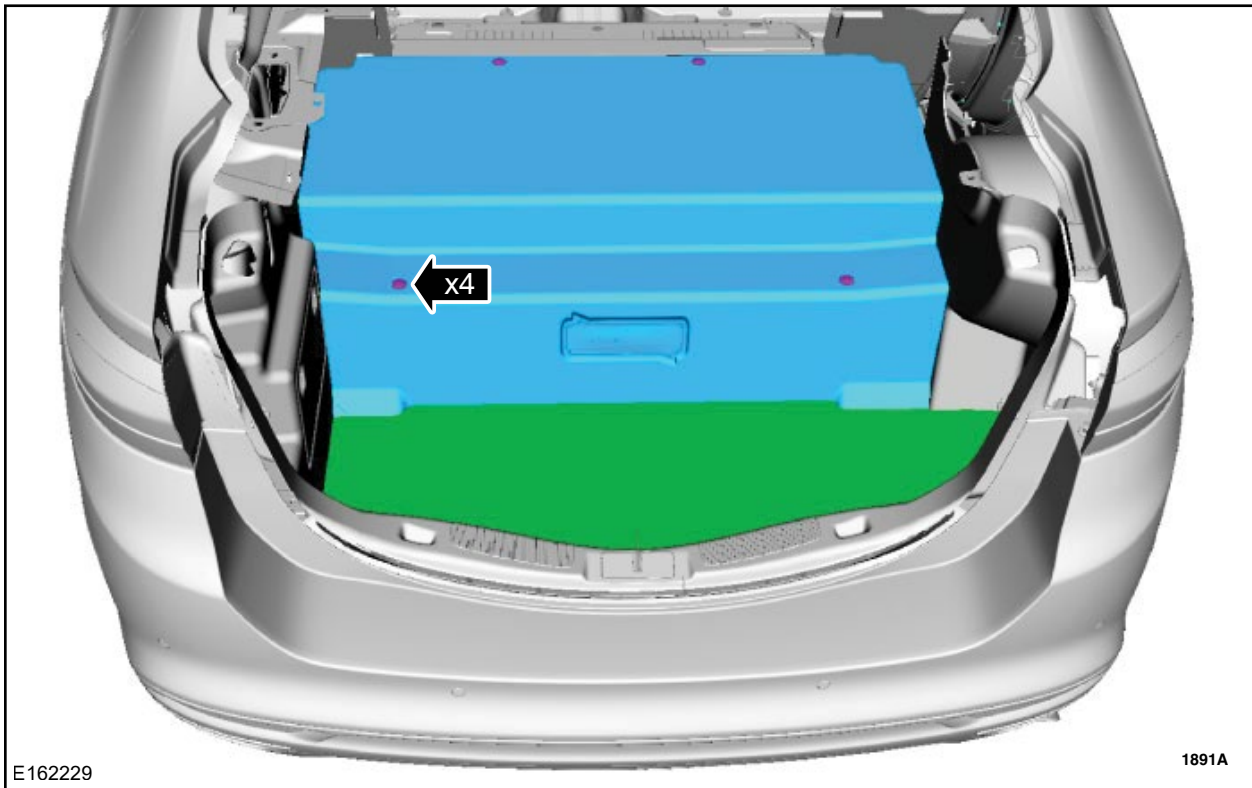

FIGURE 2
4. Remove the luggage compartment cover on the High Voltage Battery. See Figure 2.